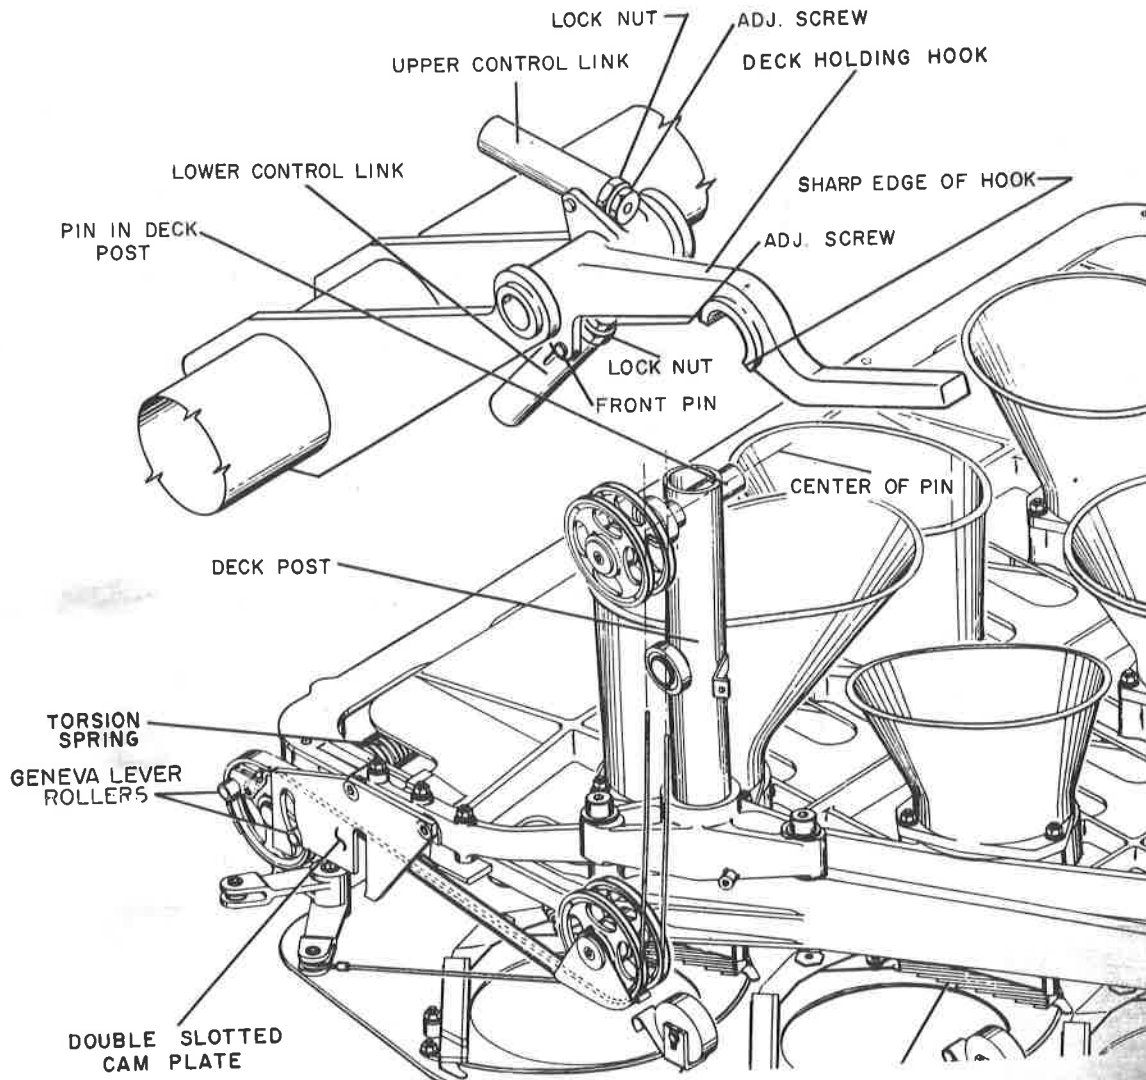

Figure 69. Deck Holding Hook Adjustment
13. DECK HOLDING HOOK ADJUSTMENT. (FIGURE 69)